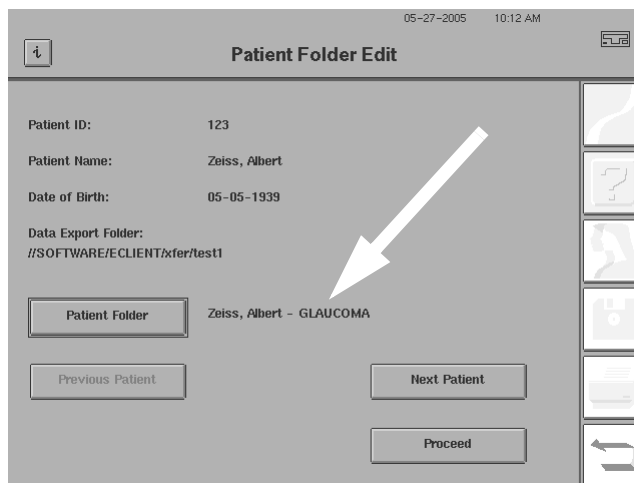

Figure 14.33 Patient Folder Edit Screen with Manually Entered Patient Folder
- 8 After you press ENTER on the keyboard, your manually entered name for the patient folder will appear to the right of the Patient Folder button, as is shown in Figure 14.33.